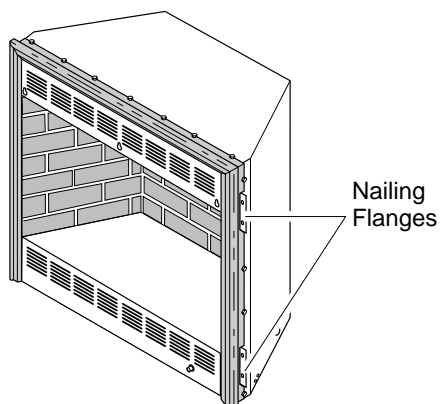

Figure 19 - Location of Nailing Flanges
- Break off nailing flanges (see Figure 19) with hammer or pliers.